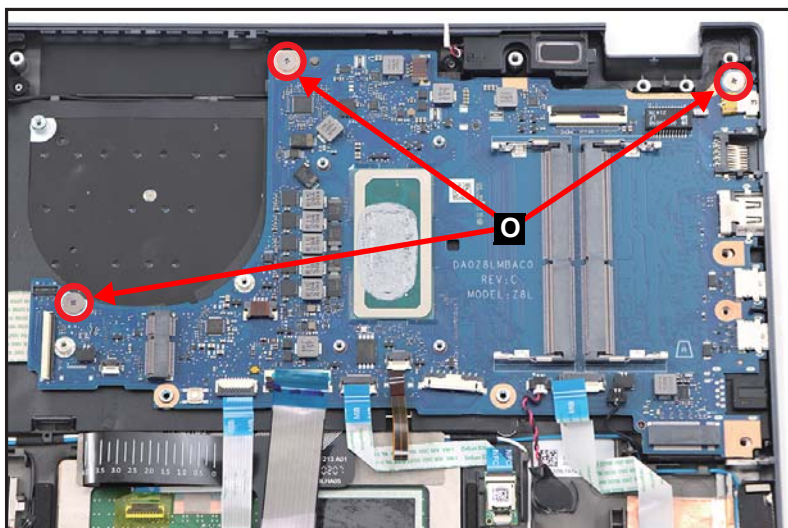

Figure 1-43. Mainboard Removal
13. Remove three (3) screws (O) securing the mainboard (Figure 1-43).